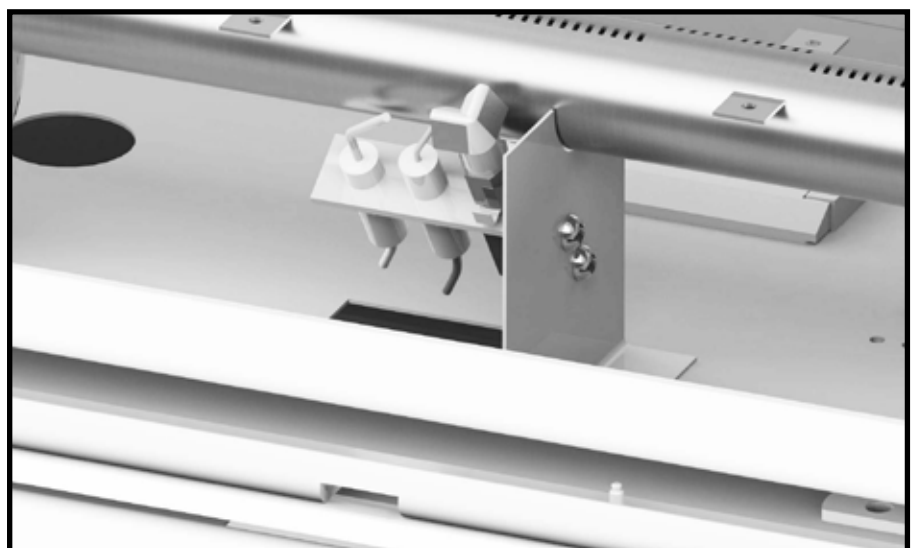

Figure 75: Attaching pilot to burner leg.
6. Attach the pilot to the burner support leg as shown in Figure 75.